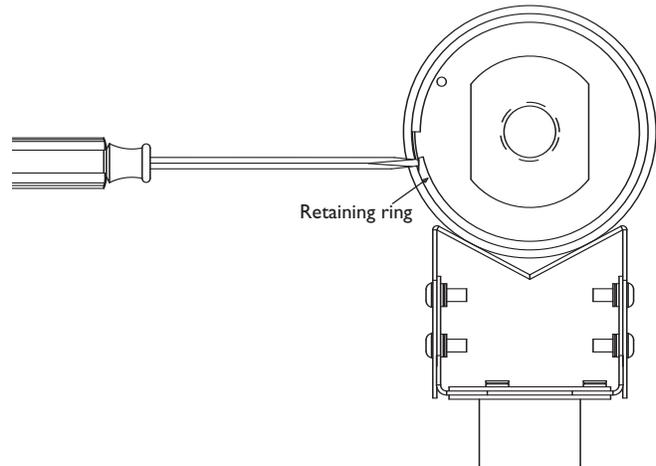

Figure 1: Removing Rear Retaining Ring
1. Remove the cradle from the housing by first removing the rear retaining ring from the rear cap. Place a flat blade screwdriver underneath the relieved portion of the retaining ring and gently pry it outward. See **Figure 1**.